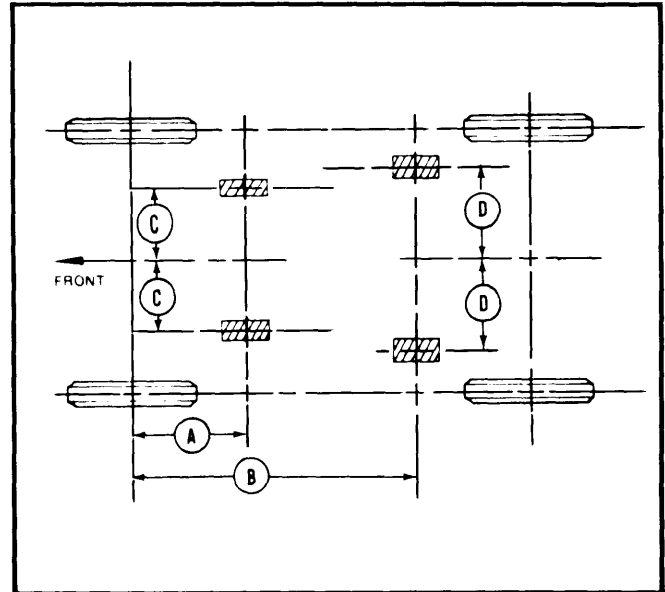

Fig. 4 Ford Motor Co. Frame Contact Points
**Frame Contact Hoist** — If frame contact hoist is used, precautions must be taken to ensure that adapters contact frame as shown in chart and Fig. 4.